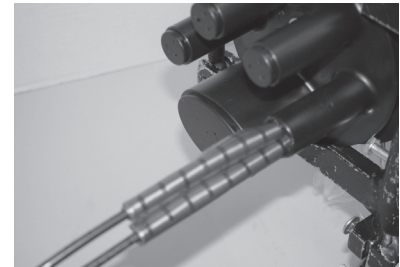

Figure 6
5. Wrap SCOP around each cable, making sure it is positioned against the port as shown (Figure 6). Correct orientation is indicated on the back of the SCOP. Slide cables back through port until SCOP butts against port.